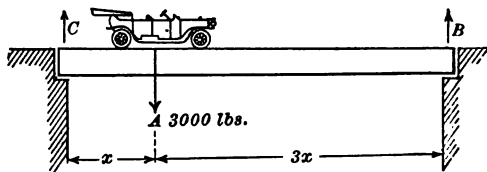

FIG. 28. — Bridge with automobile on it.
**30. Parallel forces.** Suppose we have a 3000-pound automobile standing on a bridge in a position one fourth of the length of the bridge from one end (Fig. 28), and we wish to know how much of the weight is borne by the supports at each end of the bridge.
Let us apply these principles of parallel forces to the problem of the automobile standing on the bridge. This can be represented by figure 28, where *A* is the weight of the